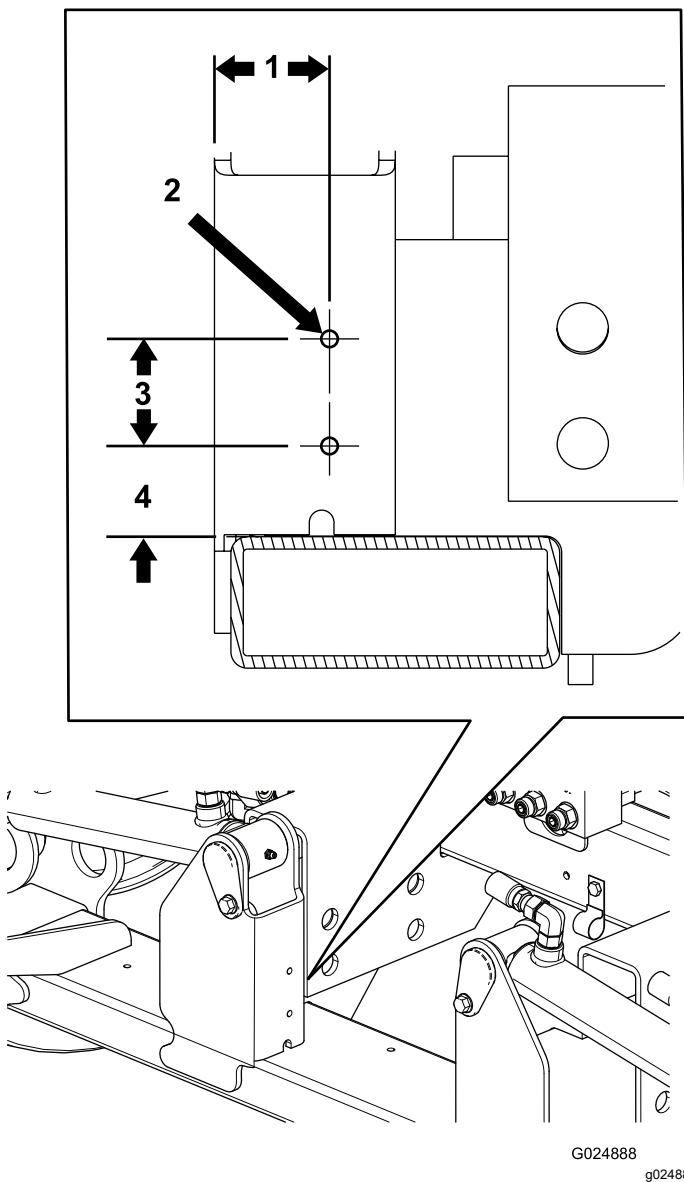

Figure 5
1. Using the dimensions shown in Figure 5, locate, mark and drill 2 holes (0.221 or 0.228 inch, #1 or #2 drill size) in the traction unit frame tube for the number 5 lift arm. Drill through only 1 wall of the tube.